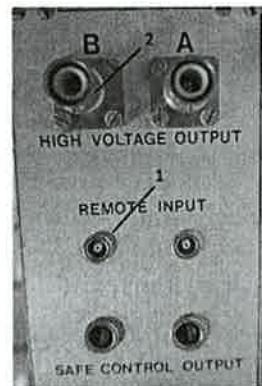

Figure 1: Rear panel overview.
1. Apply a -0.9 V ECL enable signal to the Remote Input (Fig. 1, No. 1) of the channel. Voltage output from the channel will be ~~not be suppressed~~ without this signal.
2. Connect the load to the high-voltage output terminal (Fig. 1, No. 2) of the selected channel.